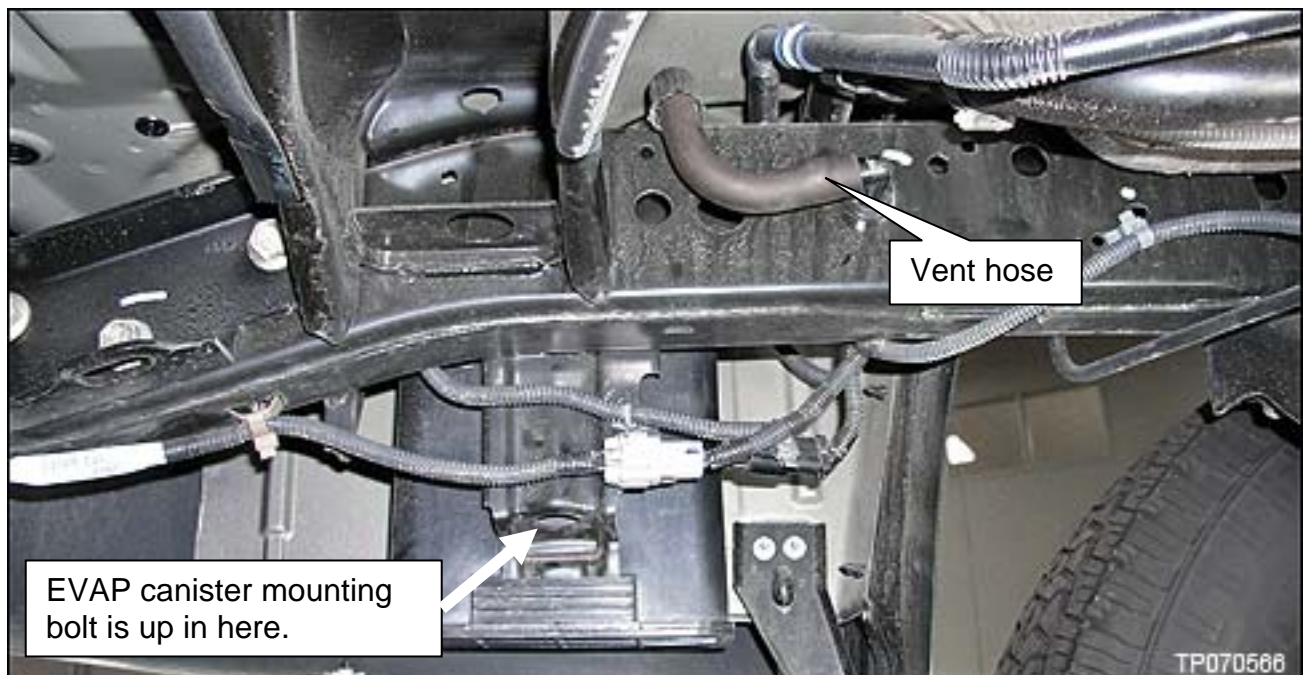

Figure 1
2. Remove the EVAP canister mounting bolt (see Figure 1).
3. Disconnect the vent hose (see Figure 1).